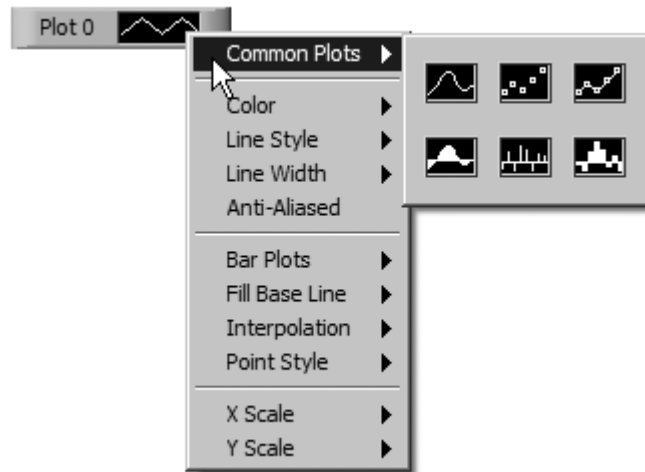

Figure 8.38
- The **Common Plots** option lets you easily configure a plot to use any of six popular plot styles, including a scatter plot, a bar plot, and a fill to zero plot (see Figure 8.38). Options in this subpalette configure the point, line, and fill styles of the graph in one step (instead of setting these options individually, as listed next). Look at Activity 8-6 for an example of a bar graph.